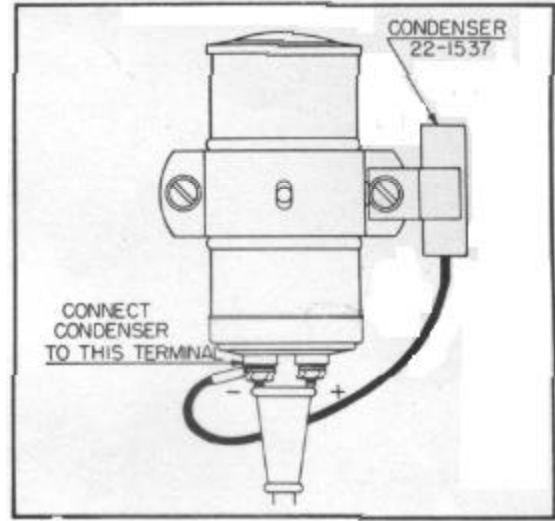

FIGURE 39
3. Remove bolt on the right side of the ignition coil. Mount a condenser under this bolt. Connect lead to coil terminal marked (-). (Figure 39).